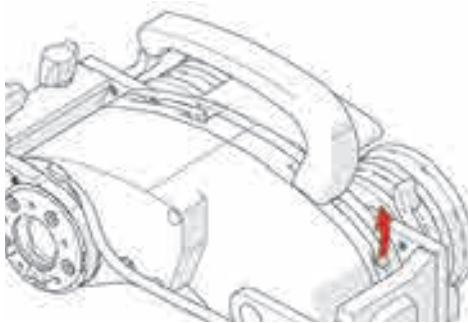

Figure 4-16 Lift the handle lock latch
1. Lift the handle lock latch (see Figure 4-16 on page 103).